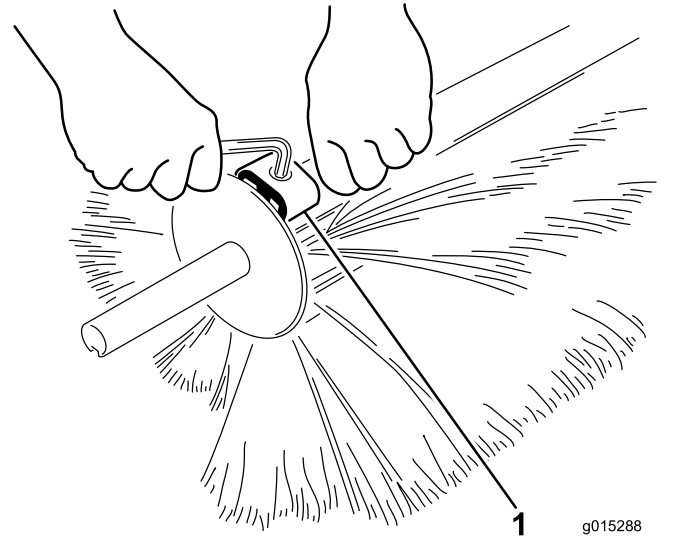

Figure 29
3. Loosen the clamps with an Allen wrench and remove it from the brush halves (Figure 29).